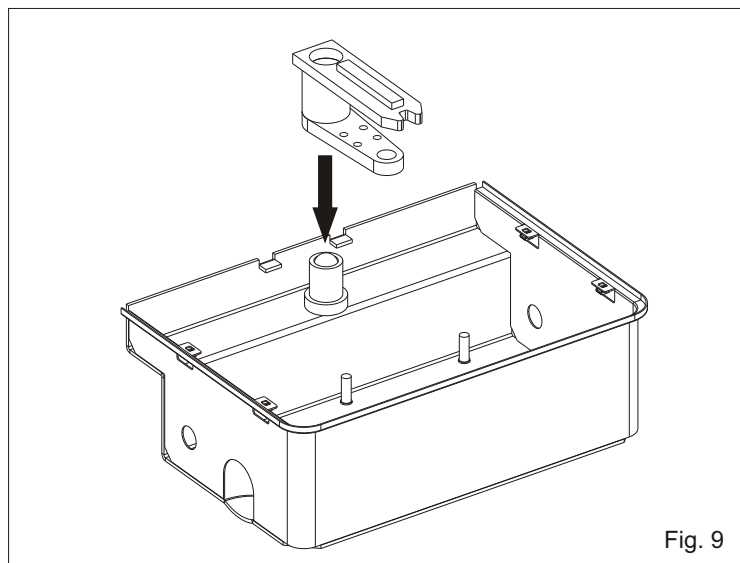

Fig. 9
2.5. Insert the handle bar device into the perforated shaft (Fig. 9)